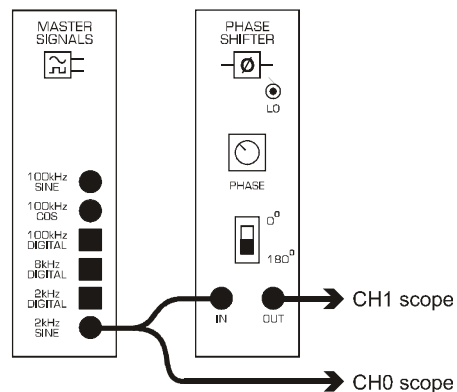

Figure 20: "adjust_PHASE" wiring diagram
1. Use patching cords to wire up DATEx blocks according to the wiring diagram in Figure 20.